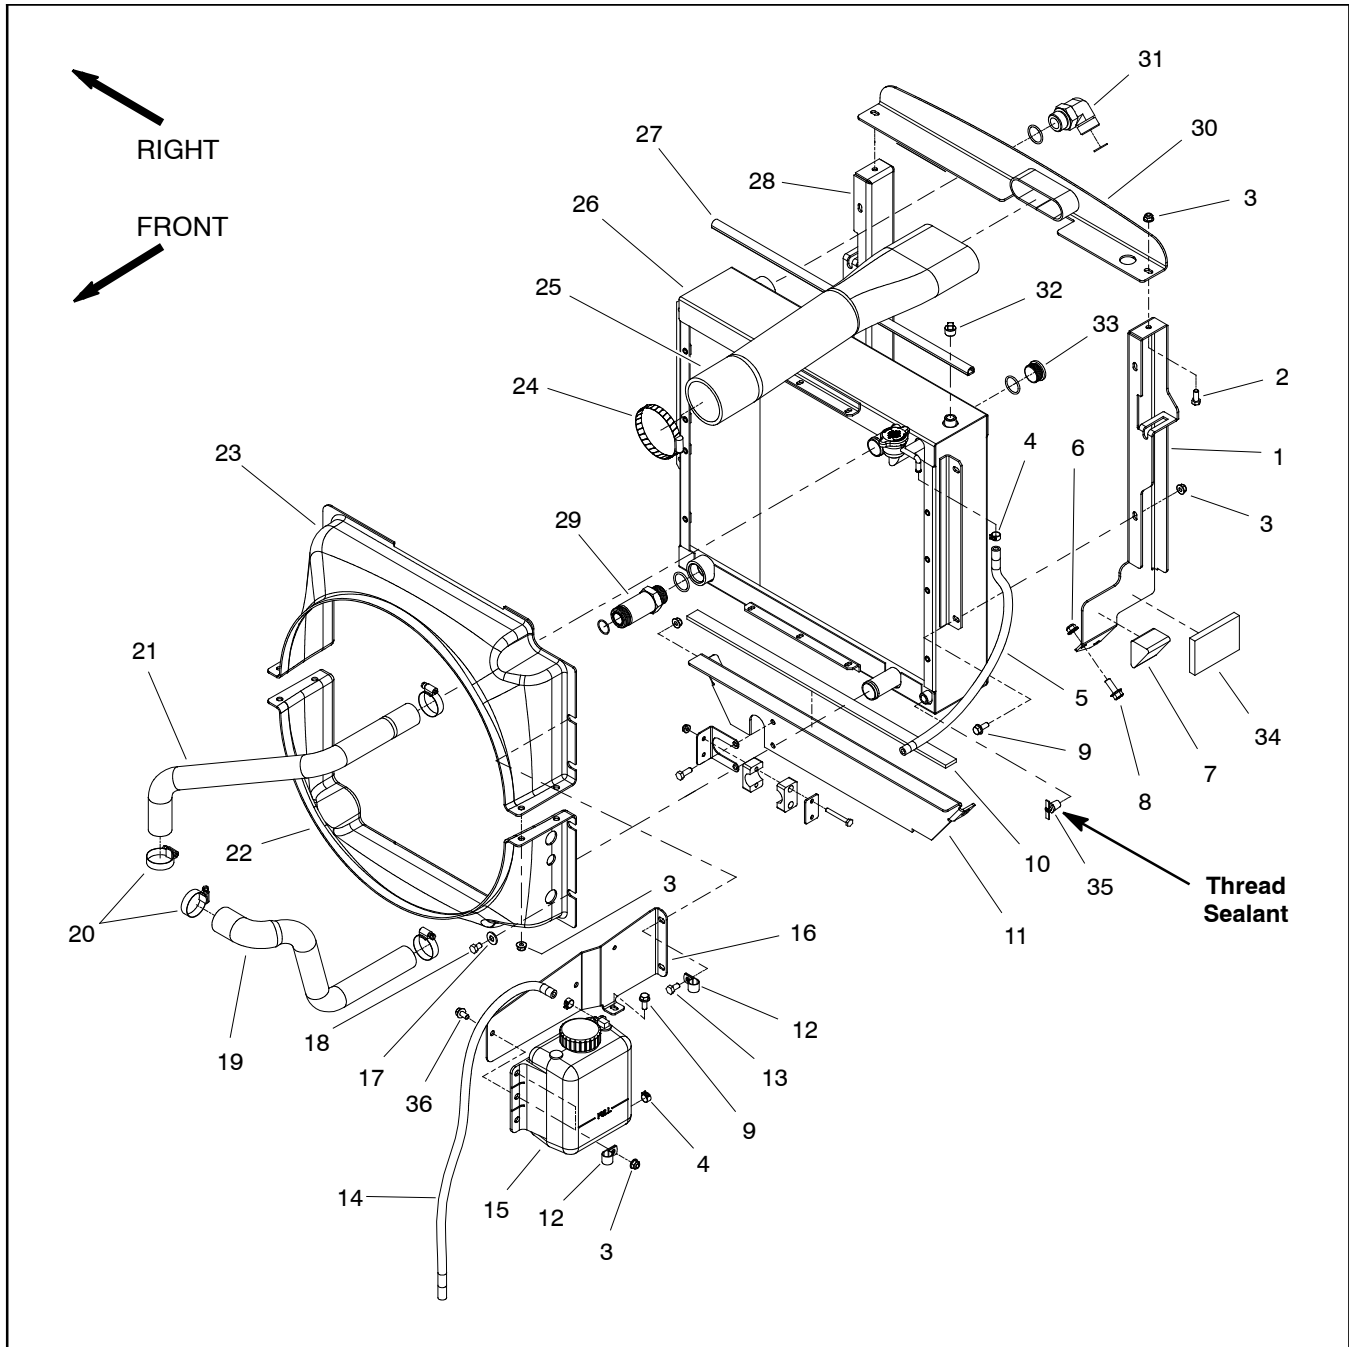
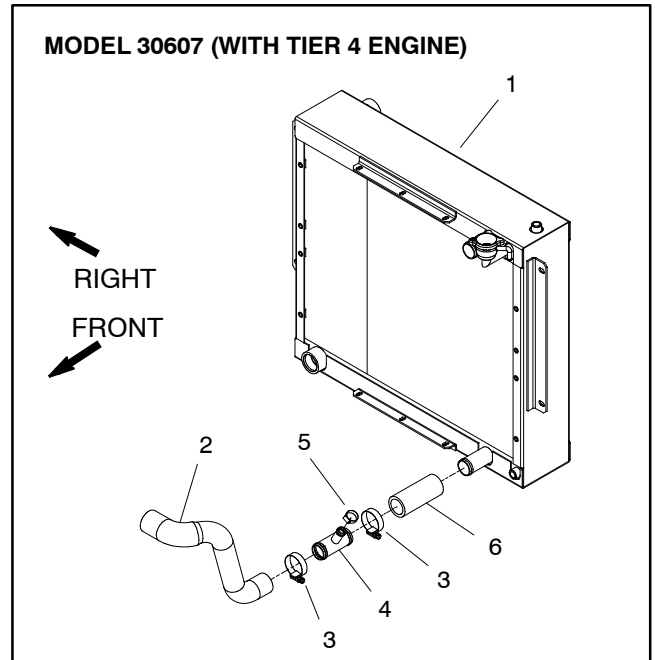
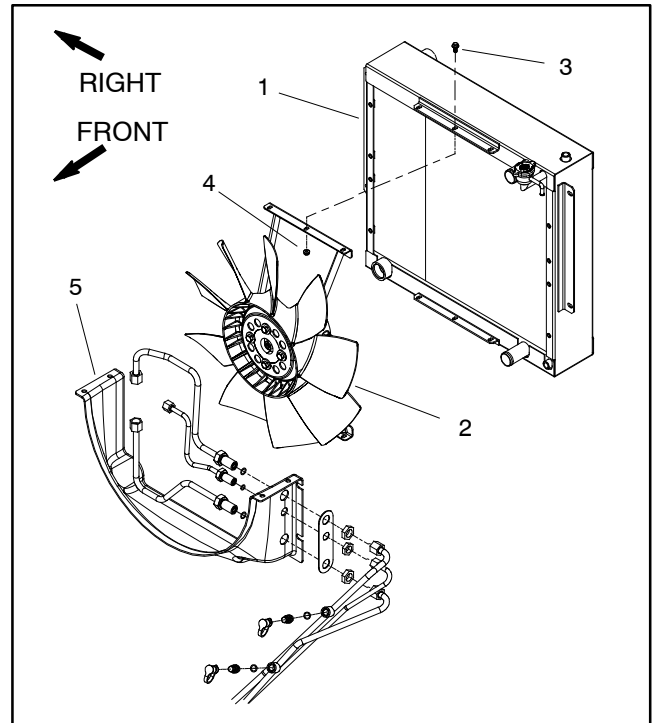
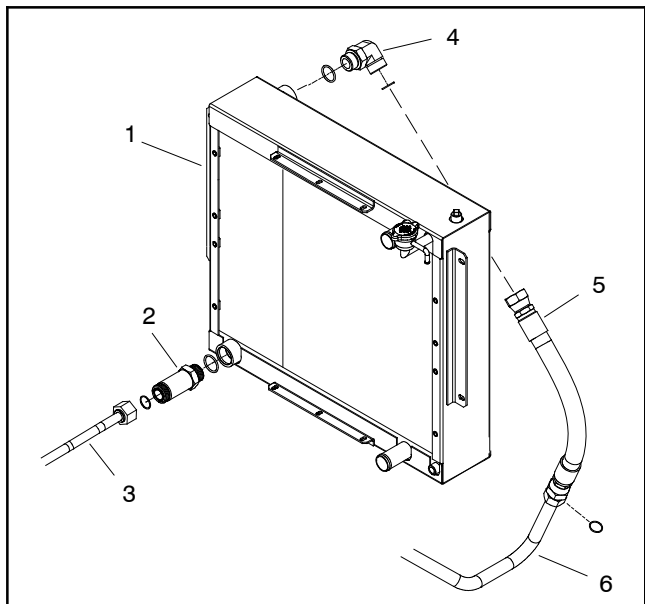

Figure 11
Figure 12
Figure 13
Figure 14
Removal (Fig. 11)
3. Disconnect radiator hoses from the radiator. Groundsmaster 4010-D machines with a Tier 4 compliant engine (model 30607) use the lower radiator hose assembly shown in Figure 12.
4. Remove air cleaner inlet hose (item 25).
6. Thoroughly clean hydraulic lines at lower radiator shroud (Fig. 13) and oil cooler ports (Fig. 14). Disconnect hydraulic lines and put caps or plugs on lines to prevent contamination. Label disconnected hydraulic lines for proper installation.
8. Remove flange head screws (item 8) and flange nuts (item 6) that secure the radiator supports (items 1 and 28) to the frame.
10. Disassemble radiator/oil cooler assembly as needed using Figures 11 and 13 as guides.
11. If necessary, remove hydraulic fittings (items 29 and 31) from oil cooler and discard O-rings.
Installation (Fig. 11)
1. Inspect seals (items 7, 10, 27 and 34) around radiator location for wear or damage. Replace seals if necessary.
3. If hydraulic fittings (items 29 and 31) were removed from oil cooler, lubricate and place new O-rings onto fittings. Install fittings into port openings and tighten fittings (see Hydraulic Fitting Installation in the General Information section of Chapter 4 - Hydraulic System).
4. Assemble radiator/oil cooler using Figures 11 and 13 as guides.
6. Secure radiator supports (items 1 and 28) to the frame with flange head screws (item 8) and flange nuts (item 6).
7. Connect hydraulic lines to fittings in oil cooler ports (Fig. 14) and at lower radiator shroud (Fig. 13) (see Hydraulic Hose and Tube Installation in the General Information section of Chapter 4 - Hydraulic System).
9. Install and secure air cleaner inlet hose (item 25).